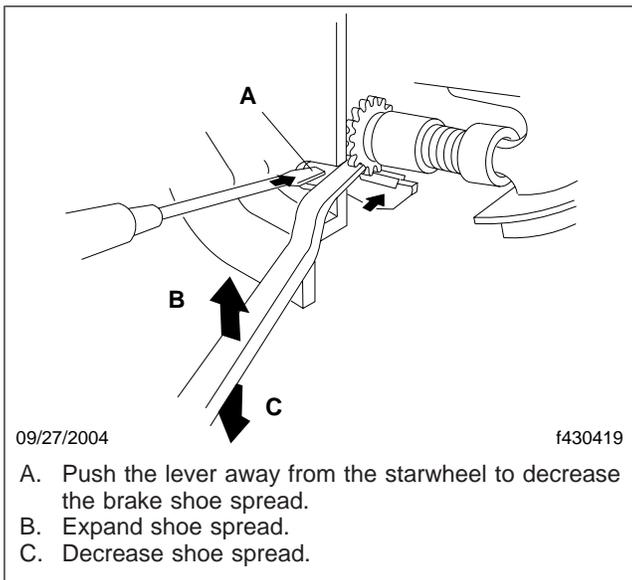

Fig. 2, Brake Adjustment
4. If you are removing the drum only, mark the position of the drum on the flange-yoke, then remove the eight capscrews and washers that hold the drum to the yoke flange, then pull the drum off of the flange. If the drum is difficult to remove, insert a narrow screwdriver through the brake adjusting hole in the backing plate and disengage the adjuster lever from the adjuster nut teeth. With the adjuster lever disengaged (see Fig. 2), insert a brake adjusting tool through the adjusting hole to engage the adjusting nut teeth. Move the teeth upward enough times to retract the brake shoes to clear the drum. If the drum is rusted to the axle-input-flange-yoke pilot, tap the center of the brake drum with a non-metallic mallet to loosen it.
9. Using pliers, or a special tool, remove both shoe-return springs. See Fig. 2.